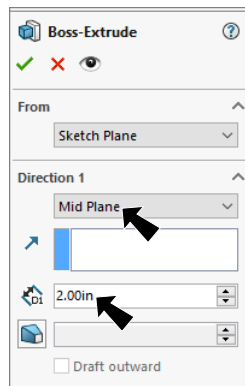

**Fig. 3**
Step 5. Click **Smart Dimension**  (S) on the Sketch toolbar.
Step 6. Dimension **inter circle diameter** **.5625** and **.035** between circles, **Fig. 3**.